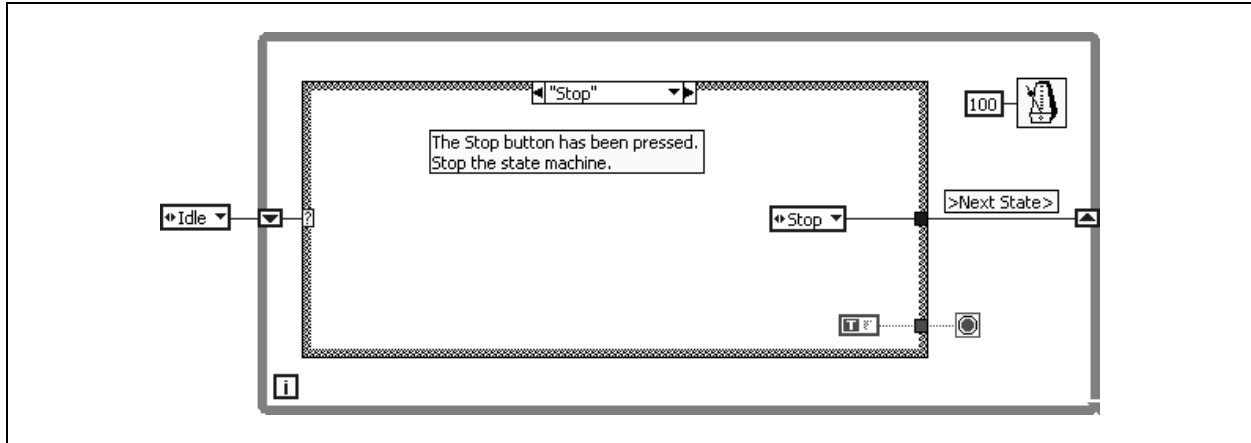

Figure 10-21. Stop State
7. Complete the Stop state shown in Figure 10-21. Use the following tips to assist you: